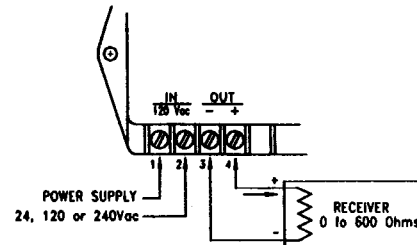
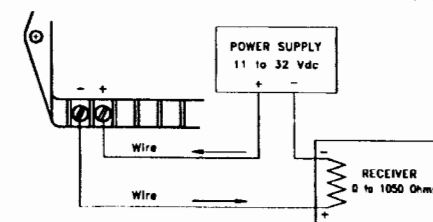

Figure 5
Figure 3
The power supply leads are connected to the two leftmost terminals (terminals 1 and 2) on the terminal strip (see Figure 5). The output signal is accessed across terminals 3 and 4, the rightmost terminals, labeled "-" and "+" (see Figure 5). The output terminals are transformer-isolated from the power supply. The output current is totally floating and either the "+" or "-" terminal may be grounded.
B. Series T30 or T40- With an ammeter connected in the loop (see Figure 3 or Figure 5, respectively), apply full pressure to the instrument and adjust the Span potentiometer R1, until the output reading is 20.00 mA.
This is a 2-wire, 4-20 mA pressure transmitter which requires an external DC power supply of 11 to 32 Vdc to power the loop. The supply voltage should not exceed 32 Vdc (see Figure 3).